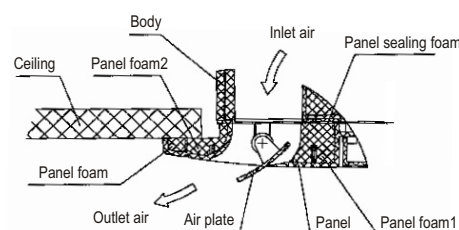
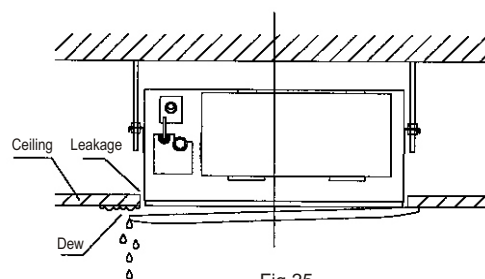
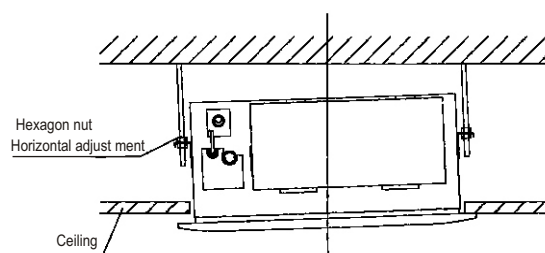

Fig.24
Fig.25
Fig.26
- Keep fastening the screws under the panel hooks, until the thickness of the sponge between the body and the panel's outlet has been reduced to about 4~6mm. The edge of the panel should contact with the ceiling well. (Refer to Fig.24) Malfunction described in Fig.25 can be caused by inappropriate tightness the screw. If the gap between the panel and ceiling still exists after fastening the screws, the height of the indoor unit should be modified again. You can modify the height of the indoor unit through the openings on the panel's four corners, if the lift of the indoor unit and the drainpipe is not influenced (refer to Fig.26-right).